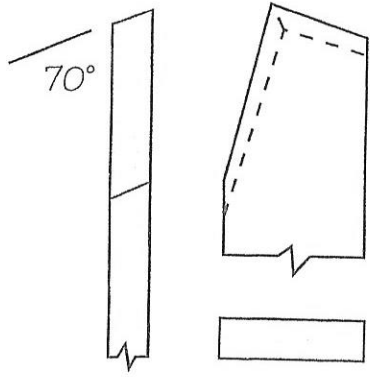

Fig. 25
**2 Diamond side-cutting scraper (inside tool) (Fig. 25)**